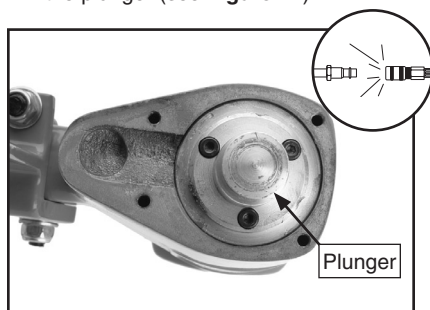

Figure 11. Removing the plunger.
7. Unscrew the cap screws and remove the plunger (see **Figure 11**).